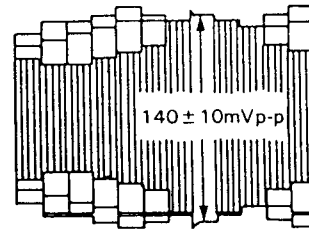

Figure 2-9.
4. Adjust R3304 (recording FM control) so that the sync tip be $140 \pm 10mVp-p$ as shown in Fig.2-9.